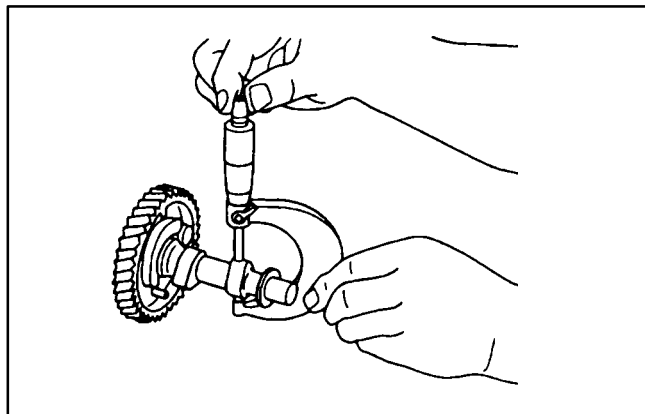

FIGURE 10-32. INTAKE AND EXHAUST CAM HEIGHTS
1. Measure the height of the cam at its highest point with an outside micrometer (Figure 10-32).